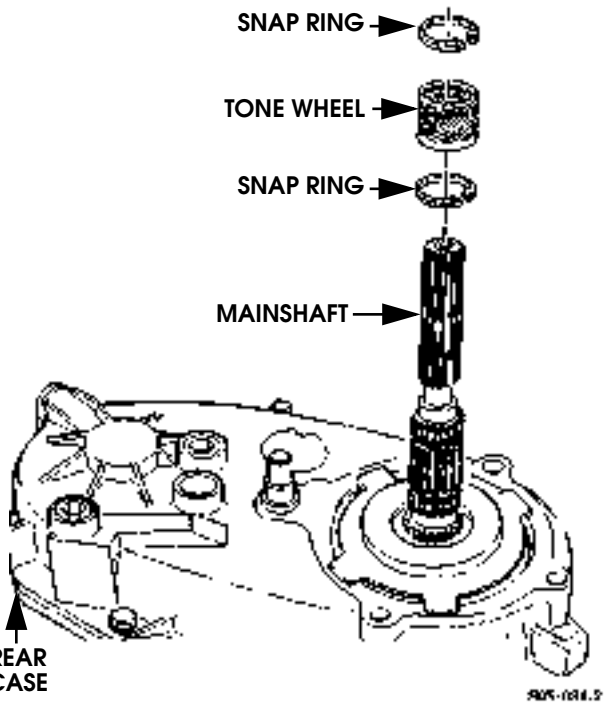

Figure 5-87: Speedometer Tone Wheel Removal/Installation
7. Remove speedometer tone wheel and snap rings (Figure 5-87).